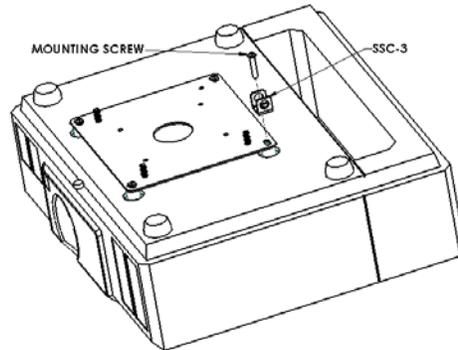

Figure 6.
- Place an SSC-3 bracket on one of the mounting points of the SLB interface bracket (see Figure 6). Depending on the screw size, a flat washer (provided) may be necessary.